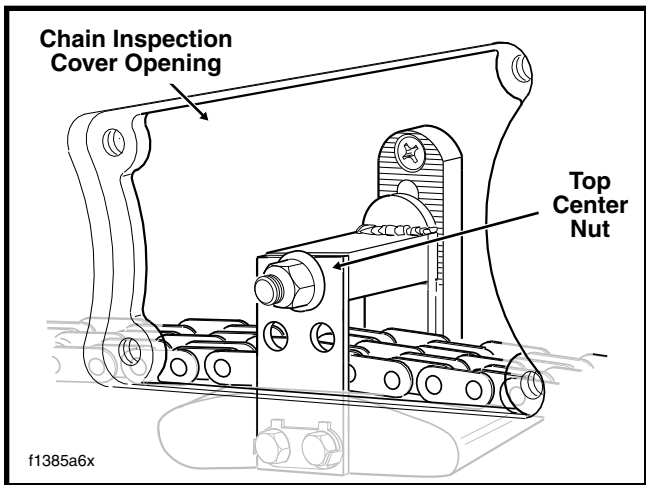

Figure 31. Primary Chaincase Cover
- a. Locate the chain tensioner assembly and loosen the top center nut a maximum of two turns. See Figure 31.